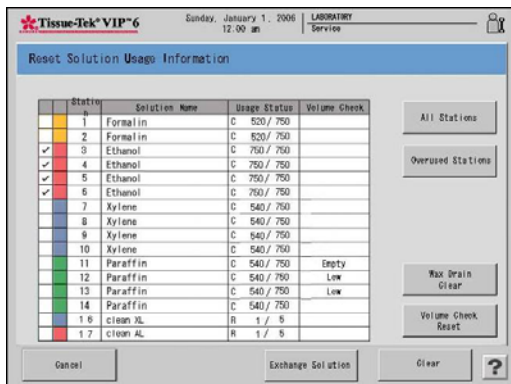

Figure 3-BBBB
- The Reset Solution Usage Information screen displays (Figure 3-BBBB).